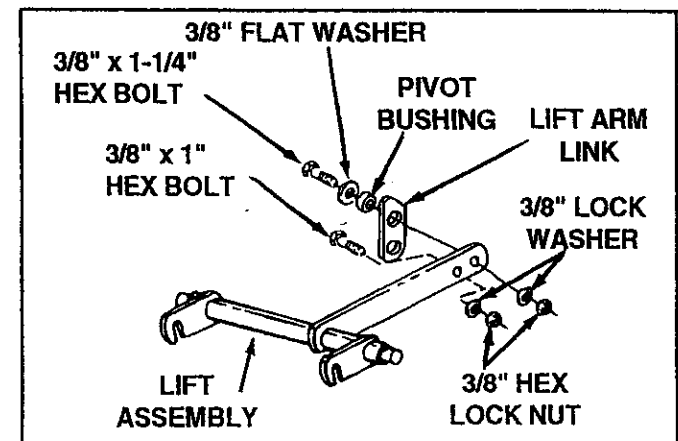

FIGURE 17
- Pre-assemble lift arm link to inside of long arm on lift assembly. As shown in figure 17.
- Assemble one $3/8"$ x $1-1/4"$ hex bolt through $3/8"$ flat washer, through pivot bushing, through large hole in lift arm link near angle end and through hole in long arm nearest the end. Secure with one $3/8"$ lock washer and one $3/8"$ hex lock nut. See figure 17. NOTE: Lift arm link must pivot freely.
- Assemble one $3/8"$ x $1"$ hex bolt through second hole from end of long arm. Secure with one $3/8"$ lock washer and one $3/8"$ hex lock nut. This bolt is used as a limit stop for the lift arm link. See figure 17.
as shown in figures 17 and 19.